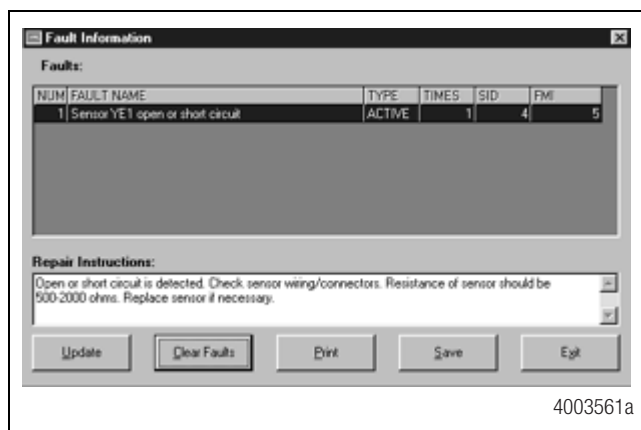

Figure 15
**YES** = Faults present, double-click on “YES” to bring up the fault information screen. Figure 15.